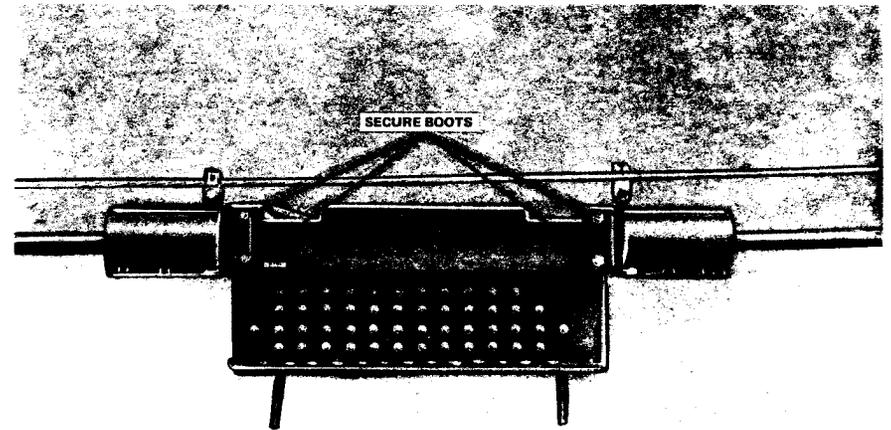

Fig. 24—Securing Boots
4.16 Slide the boot up to the terminal panel and attach the boot to the terminal panel with the two screws provided (Fig. 24). Install the boot on the other end of the terminal panel in a similar manner.